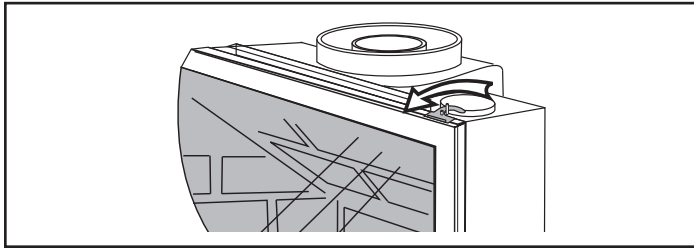

Figure 59 - Release the latches to release the glass frame.
1. Remove stove front. Lift stove front up and then swing bottom out and away to disengage from the stove body. (Figure 59)
2. Swing open the swiveling latches at the top left and right corners of the glass frame. (Figure 59)
Replace glass only with Hearth & Home Technologies approved parts. Refer to the "**Replacement Parts**" section of this manual. Refer to Figure 59 and previous instructions for removal of the damaged glass frame.
1. Remove the Front, Glass Frame and Glass Panel. (Figures 59 & 60) Remove the old gasket. Use a razor blade to separate the glass and gasket from the frame, and to clean the glass of any remaining cement or bits of gasket. Use a cold chisel if necessary.